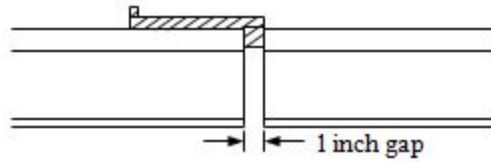

Figure 111K *Setting Gauge Placement*
Step 3: Place the setting gauge in the welding gap. (See Figure 111K)